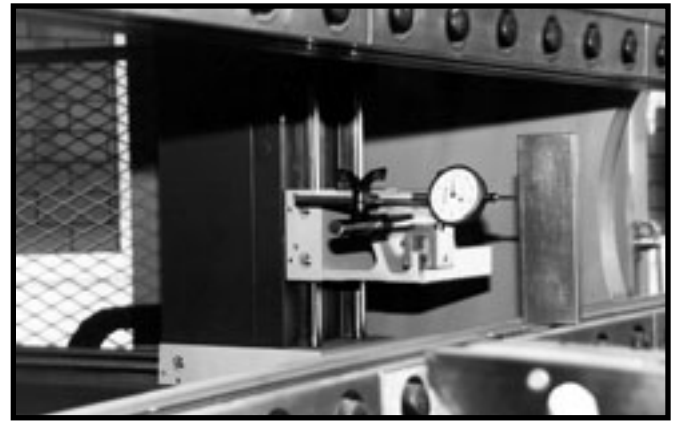

FIGURE 9-24 R-axis travel up and down
2. Optional Powered R-axis (See Figure 9-24) - Bottom of the fingers are 10.000" (254mm) \pm .005" (.13mm) above the bed when control displays 10.000" (254mm). R-axis position can be adjusted by loosening the 3/8"-16 hex bolts which attach the R-axis carriage to the ballscrew nut. These bolts are accessible through the 7/8" diameter holes near the top of the R-axis housings. Using the R-axis adjustment tool (#430100-C), rotate the handle until the proper height is determined, retighten the drive bracket hex bolts.